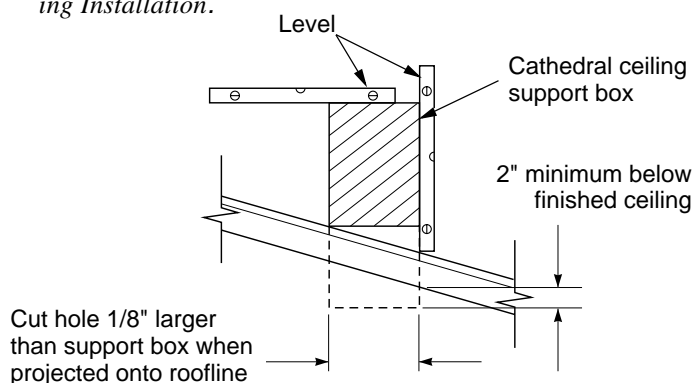

Figure 26 - Cathedral Ceiling Support Box Installation
- Cut the hole 1/8" larger than the support box outline (see Figure 26).
- Lower the support box through the hole in the roof until the bottom of the box extends at least 2" below the ceiling (see Figure 26). Align the support box vertically and horizontally using a level. Temporarily tack the support box in place through the inside walls and into the roof sheathing.